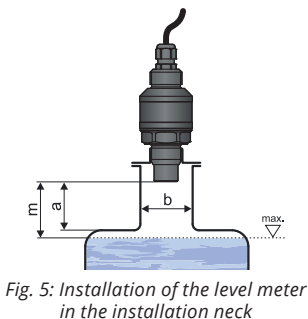

Fig. 5: Installation of the level meter in the installation neck
- Only if the maximum level in the tank gets into the dead zone, the device shall be mounted into a higher **installation neck**. The tank can be then filled nearly up to the maximum volume. The neck's inner level shall be even and smooth (without edges and welded joints), the inner edge should be rounded in the spot where the ultrasonic wave leaves the pipe. Choose the largest possible neck diameter, but keep the neck height as low as possible. The recommended dimensions of the inlet neck are listed in Fig. 5.